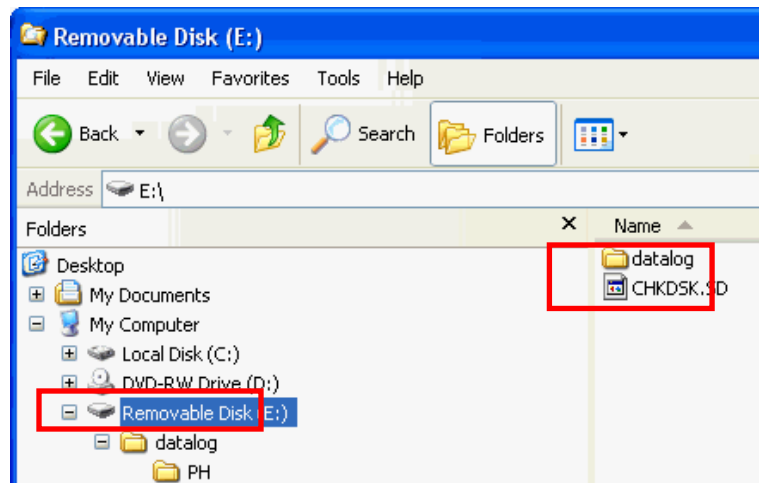
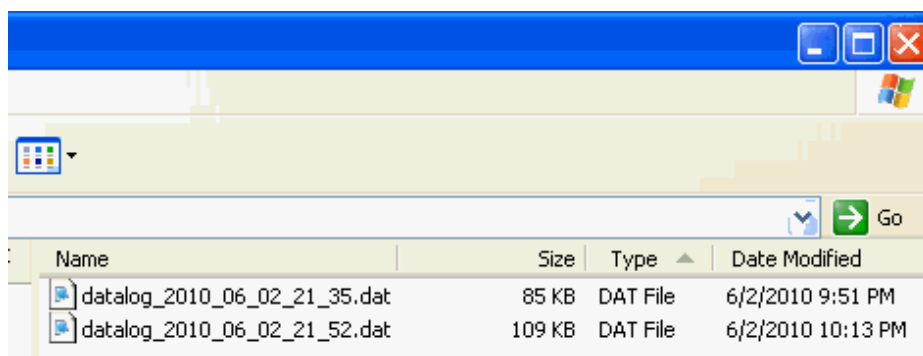

Figure 6: Datalog Folder and CHKDSK.SD File on Removable Disk
Figure 8: Automatically Generated Datalog Files
4. Prior to logging data, type the command [FSFORMAT]A:;DEFAULT to check for corruption and to format the internal flash drive; a “CHKDSK.SD” file will be created automatically upon completion of formatting and stored in the “datalog” folder (see Figure 6).
6. Create a directory in the current working directory for data logging: Type [FSMKDIR] followed by a directory name. (i.e. [FSMKDIR] “Pt_Conception”, Refer to the [FSMKDIR] command for details on creating directories.) Repeat to create multiple directories for data logging. The directories will be stored in the “datalog” folder (see Figure 6).
Each time data logging is restarted, a new log file is created (see Figure 8). The log files are created in a datalog_YYYY_MM_DD_HH_MM.dat format.
2. On the *Input Terminal*, type [USBMODE]Device, MassStorage. The SF-3050 2GB internal memory chip will show in Windows Explorer as an additional “removable” drive (see Figure 6).
3. Open the datalog folder (see Figure 6) on the removable drive and select the folders or files to store on the PC (see Figure 8).